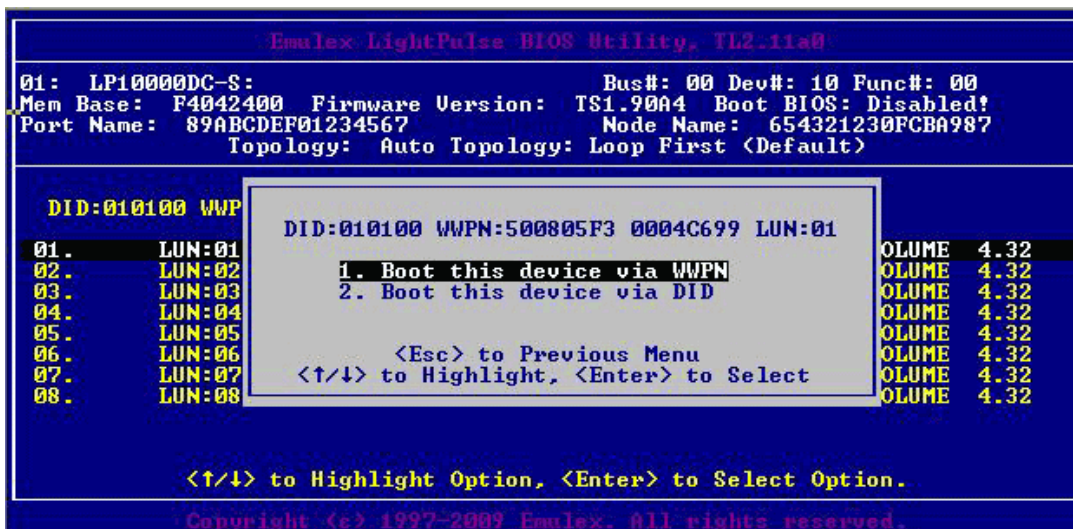

Figure 4-7 Boot Devices Menu
- Type the two digits corresponding to the entry you are selecting. The boot devices menu (Figure 4-7) displays the following options: